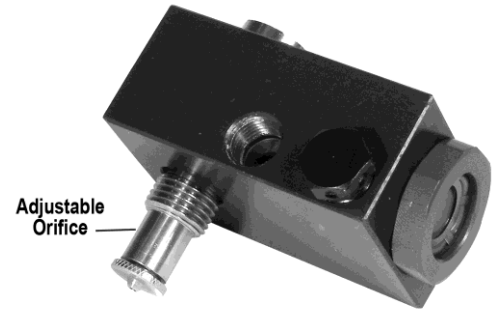

Figure 2 – Adjustable Orifice
8. Ensure that the adjustable orifice is fully raised upward so that the actuator arm is not bent when inserted into the body. See **Figure 2**.